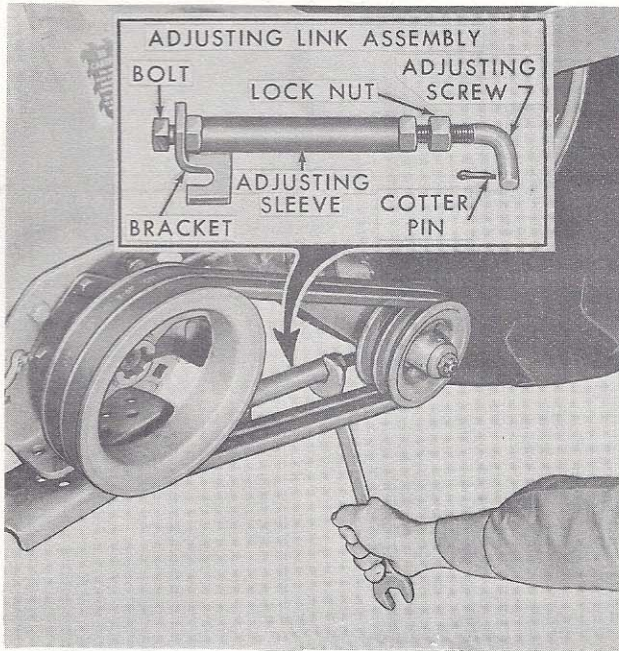

Figure 8
Belt Tension: To adjust the tension on the mower V-belts, loosen the lock nut and turn the adjusting sleeve until there is approximately 1/4" free play in the belts midway between the sheaves, Figure 8. Secure the adjusting sleeve with the lock nut. Worn V-belts should be replaced in pairs.
12. Shorten the adjusting link to the minimum length. Hook the bracket of the link, Figure 8, to the right rear corner of the tractor drawbar support and insert the adjusting screw in the driven sheave housing and secure with a cotter pin. Secure the belt guard to the tractor with two bolts and flat washers.